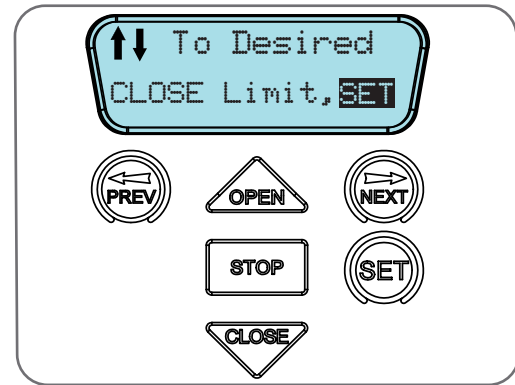

Fig 9.2
- b. After a short delay the MAIN SCREEN (Fig. 9.2) will be displayed. If this is the first time the Axess® Pro Series 3000 is being used, the MAIN SCREEN should enter into limit set mode and the blue close LED will be flashing. If the display shows that an input is active, then rectify the situation before continuing with the procedure for setting the travel limits. Press and hold the CLOSE button - the Door should start closing.